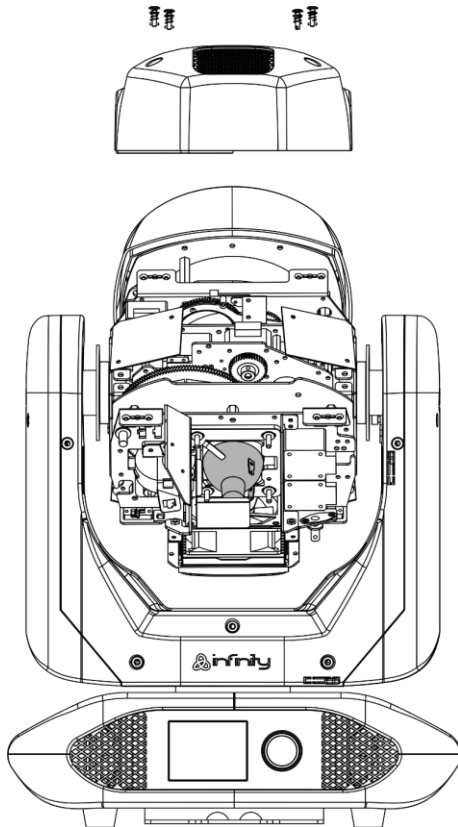

Fig. 03
- 04) Loosen the 4 Phillips-head quarter-turn fasteners on the housing and remove the cover (Fig. 03).